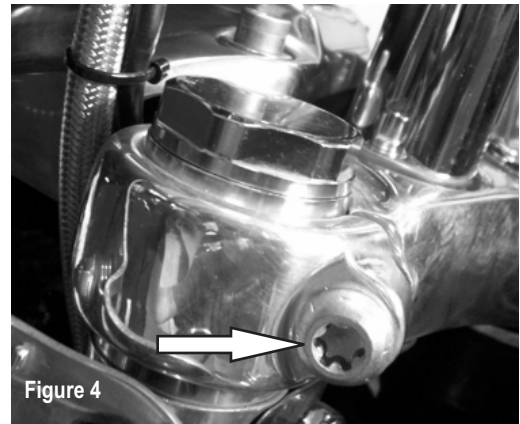

Figure 4
- Loosen the pinch bolts on the upper triple clamp. Failure to do so will make fork cap removal very difficult and potentially damage the caps and or fork tubes. **Figure 4**